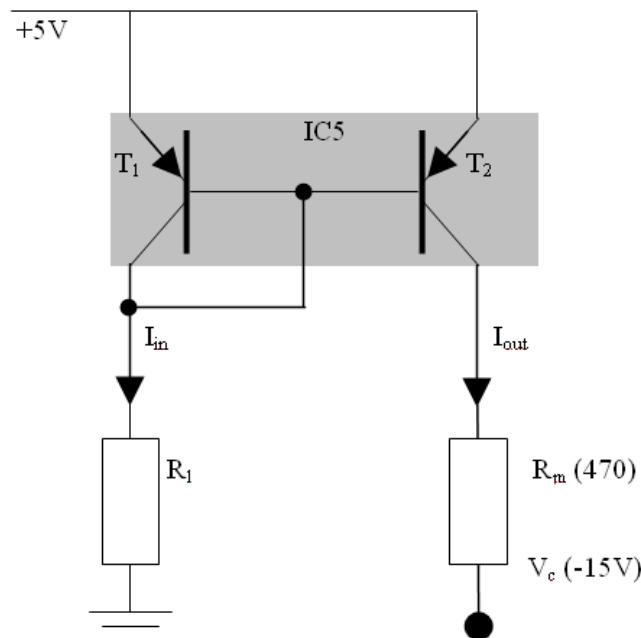
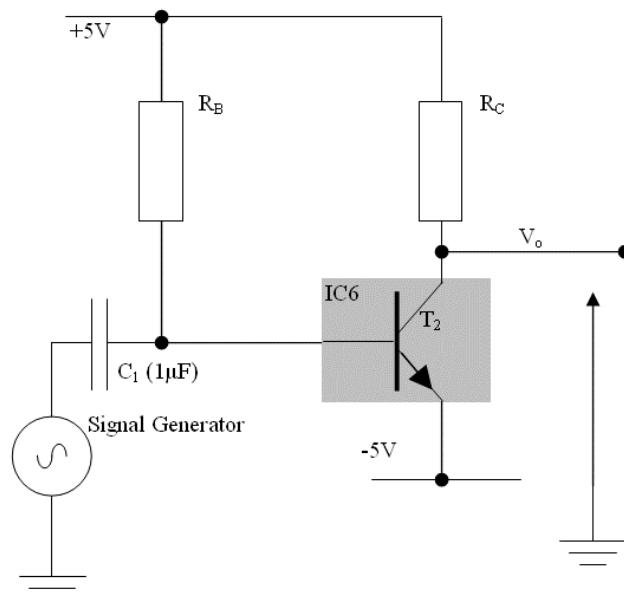
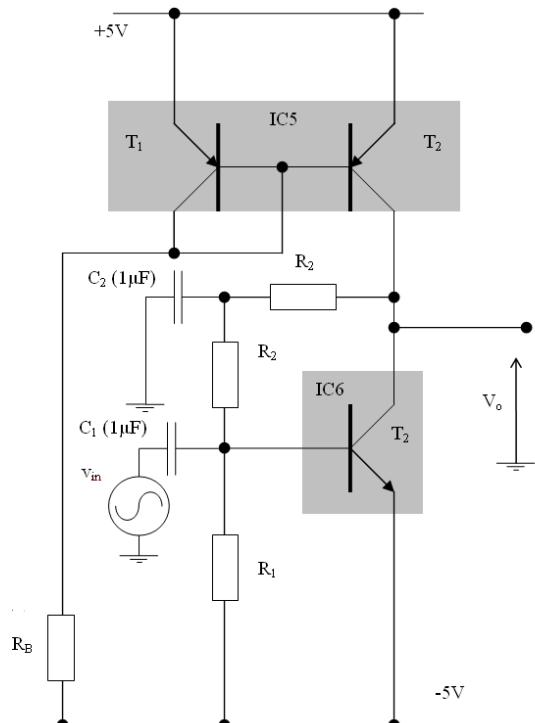

Figure 5 Implementation of simple current mirror
Figure 7 Common emitter circuit
Figure 9 CE stage with active load
Diode-connected transistor $T_{1(5)}$ (see Figure 5) fixes the base-emitter voltage of $T_{2(5)}$. The collector-base connection of $T_{1(5)}$ is necessary to ensure that both $T_{1(5)}$ and $T_{2(5)}$ get their required base current, as mentioned earlier.
In op-amp design, it is desirable to have a high voltage gain from a single amplifier stage. The most common configuration of a high gain voltage amplifier is the common emitter (CE) configuration (the emitter being the common point to input and output voltages). In fact, the CE stage is the only single transistor configuration that gives high voltage and high current gain simultaneously. Figure 7 shows a simple common emitter amplifier, together with associated biasing circuitry.
- In a fresh schematic, simulate the CE amplifier (Figure 7). Make sure that you have set the -5V rail. Check that all DC levels of the amplifier are as you expect.
- Copy your previous circuit to a new schematic and replace R_C (Figure 7) in the single stage CE voltage amplifier, with the collector output of transistor $T_{2(5)}$ in the simple current mirror design (from section 5) as shown in Figure 9.
- Note that now R_1 (Figure 5), has been replaced by a resistor with a terminal connected to the -5V rail (R_B in Figure 9). Choose R_B to obtain an input current (into IC5) of 1 mA.